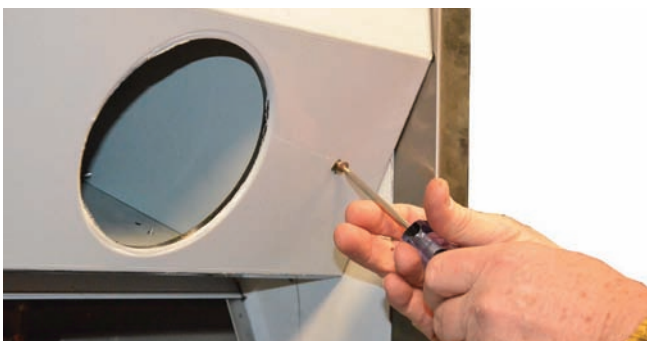

Figure 1
3. Remove (2) T10 Torx screws from the underside of the front panel. This is the panel that accommodates the incandescent lights see figure 1.